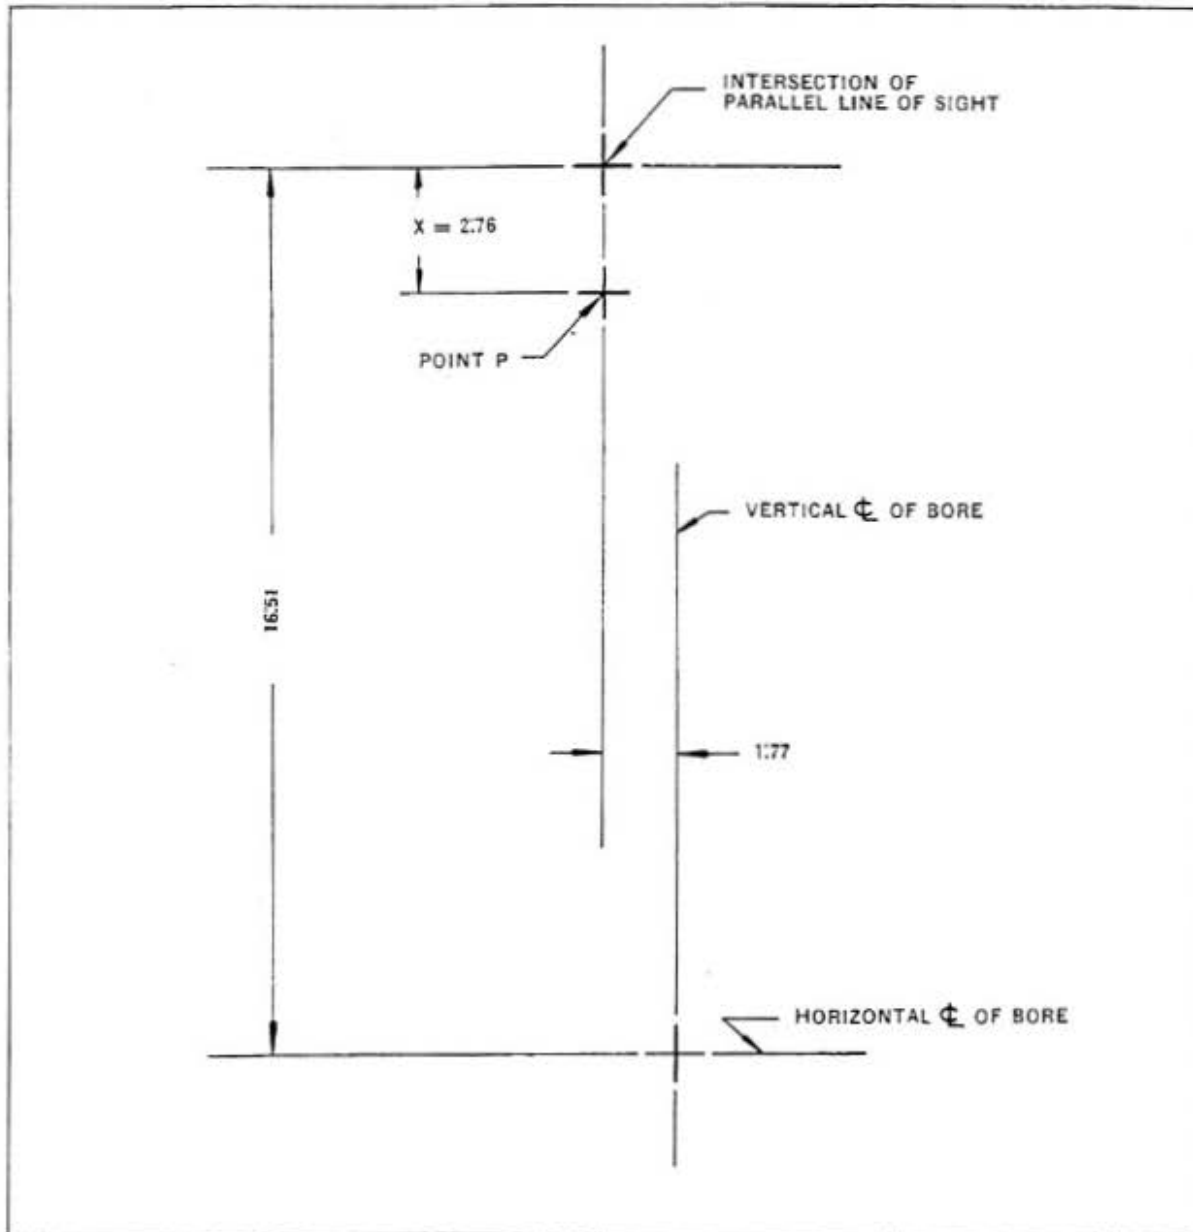

Figure 72—Bore Sight Target for 20 mm. Sight Mark 4 Mod. 1
The procedure outlined above will adjust the line of sight through the center of the rear sight and the center of the foresight to intersect the trajectory of the projectile at a horizontal range of approximately 750 yards. (This is true in the case of Sight Mark 2 when the adjustable rear sight is set to the "Normal" position). To set the line of sight so that it intersects the trajectory of the projectile at **any desired range and elevation**, the following formula can be used for locating a corresponding point, (P), Figure 72, on the bore sight target where the line of sight must intersect.
When the distance (X) has been determined from the above formula, mark point (P) on the batten as shown in Figure 72 (for the case of a Mark 4 Mod. 1 Sight). With the target set up and adjusted as outlined in paragraphs (4b), (4c), and (4d), loosen the clamping bolts, move the foresight up or down until the line of sight through the center of the rear sight and the center of the foresight intersects the mark point (P) on the batten and then tighten the clamping bolts. Note that in this case the center of the foresight is used and not the parallel bore sighting notch above the horizontal bar on the foresight of 20 mm. Sights Marks 4 and 4 Mod. 1. On the 20 mm. Sight Mark 2, the rear sight must be in the "Normal" position. The following example will serve to illustrate the method of setting the line of sight to intersect the trajectory of the projectile at any desired range and elevation.
- (b) Lay off on the batten the distance $X = 2.76$ vertically downward from the mark indicating the point where the parallel line of sight intersects the batten. Mark the point (P) as indicated in Figure 72.
- (c) Set up the batten at a distance of 25 feet forward of the rear sight and adjust as outlined in paragraphs (4b), (4c) and (4d). Loosen the clamping bolts on the foresight and move the foresight vertically until the line of sight through the center of the rear sight and the center of the foresight intersects the batten at point (P). Tighten the clamping bolts. The line of sight is now adjusted to intersect the trajectory of the projectile at 1000 yards range and 45 degrees elevation.